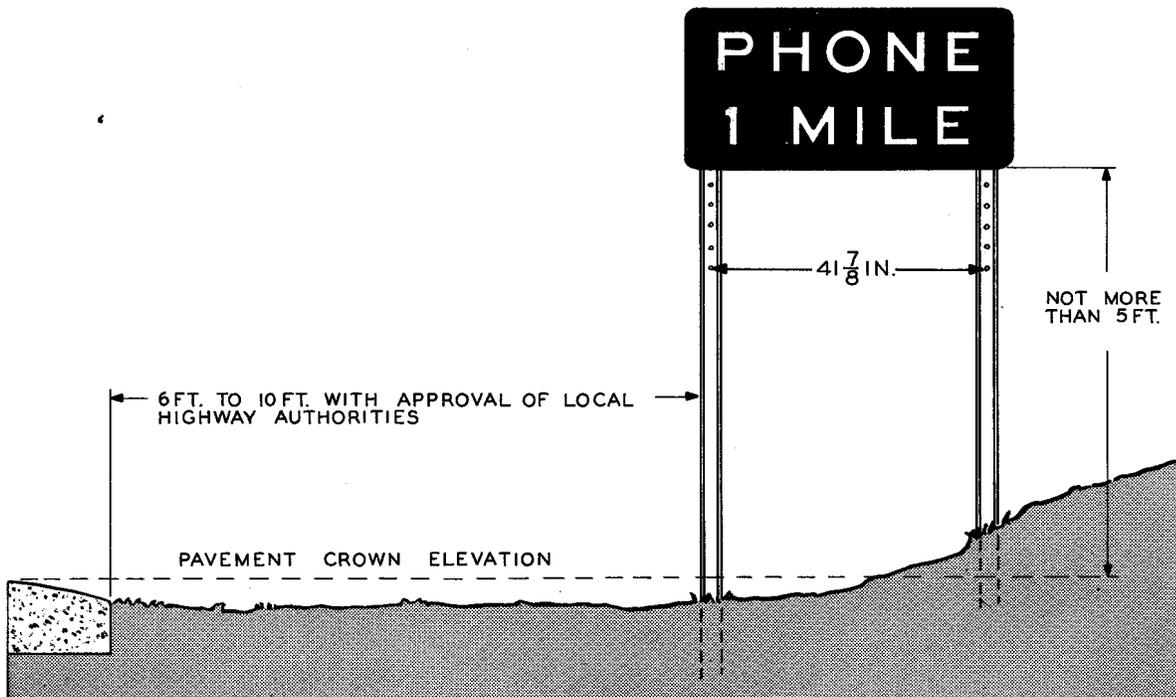

Fig. 3 — KS-16540, List 1 Installation
1.02 The KS-16540 sign is equipped with mounting screws, nuts, and washers. Two mounting posts must be ordered for each sign. These posts are available in lengths of 9 and 11 feet. A KS-16540, List 1 installation is shown in Fig. 3.